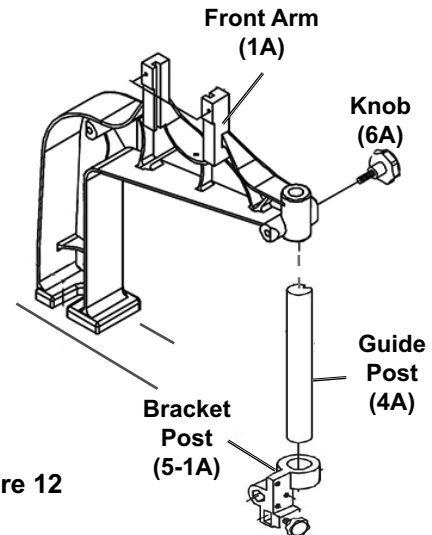

Figure 12
2. Insert the Guide Post (4A) into the Front Arm (1A) socket. Tighten Knob (6A) to secure the Post to the Arm. See Figure 12.